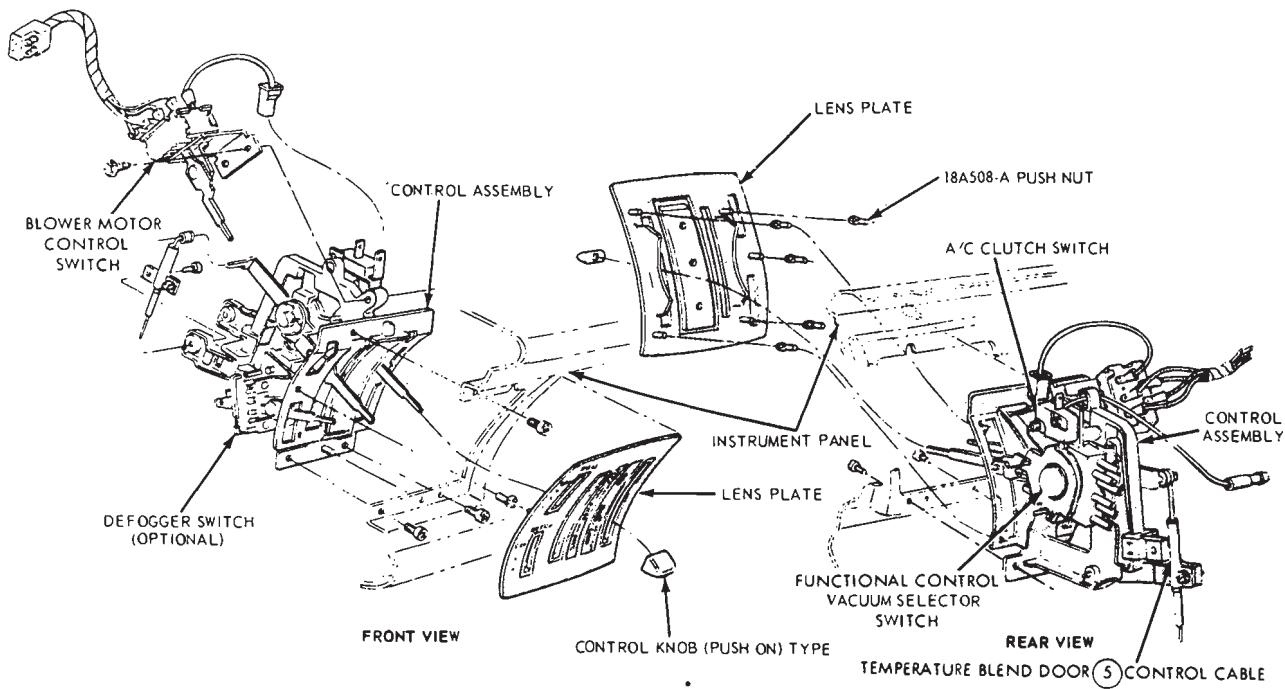

FIG. 58—A/C-Heater Control Assembly—Maverick
Remove the instrument cluster assembly (Group 33), from the vehicle. Working through the cluster opening, disconnect the clutch switch connectors and remove the 2 nuts retaining the clutch switch to the control assembly and remove the switch (Fig. 58).
11. Remove the heat/defrost air distribution duct. Then, remove the retaining clip and open the door in the duct (Fig. 58).
To remove the control assembly, remove the instrument cluster (Group 15). Pull the knobs off the control levers, blower switch and defogger switch (Fig. 58). Carefully remove the face plate by prying it off at the top and bottom alternately. If this is not done, the mounting pins may be broken. Pry off the lens plate from the control assembly, then remove the screws retaining the control assembly to the instrument panel. Move the control assembly out through the cluster opening and disconnect all switches and cables. Remove the assembly.